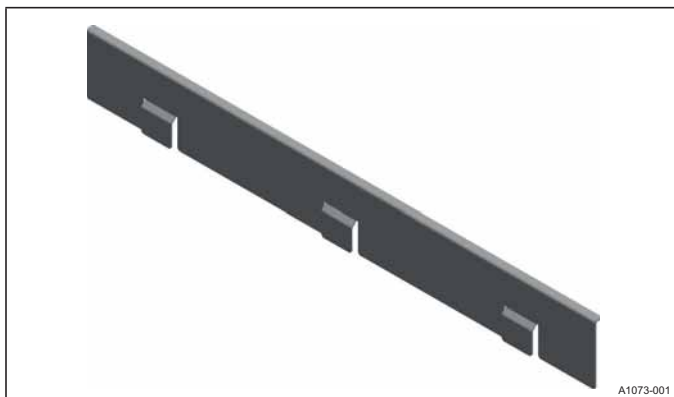

FIGURE 11: Condensate Shield
2. Locate the downflow condensate shield (as shown in Figure 11) and foam gasket strip shipped in the loose parts kit included with the coil.